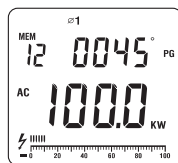

Figure 9
(see figure 9, 10, 11, 12, 13, 14, 15, 16)
- Press **SELECT** to choose first phase $\varnothing 1$, see figure 9. The double displays show the active power kW value and also the PG value of $\varnothing 1$.